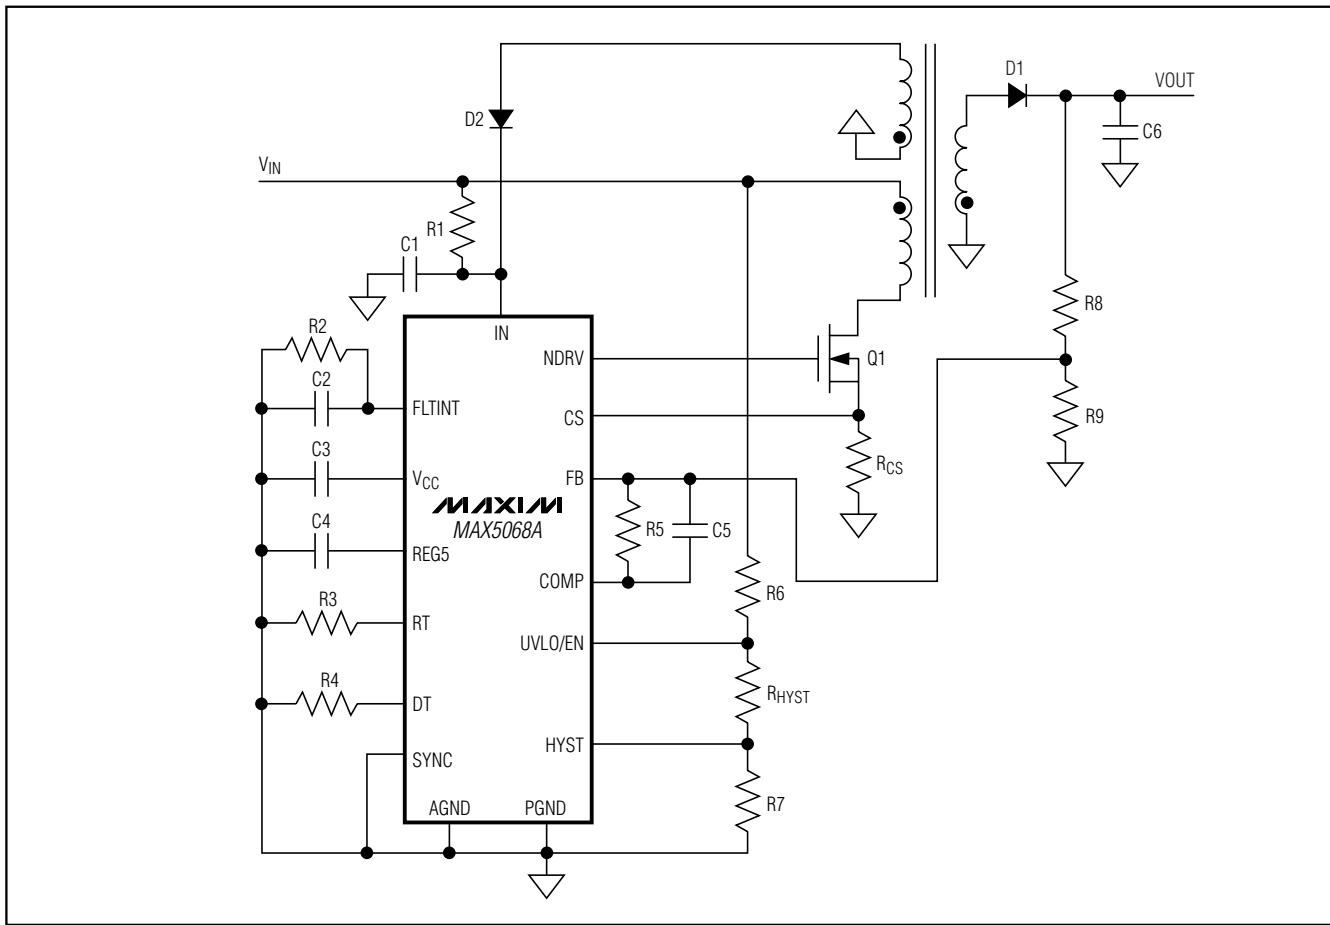
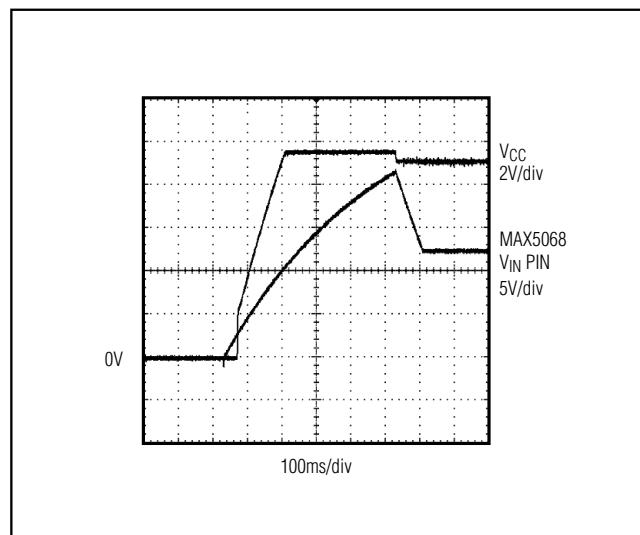

Figure 1. Nonisolated Power Supply with Programmable Input Supply Voltage
Figure 5.  $V_{IN}$  and  $V_{CC}$  During Startup When Using the MAX5068 in Bootstrapped Mode (Also see Figure 1)
**Note 2:** The MAX5068A/B are intended for use in universal-input power supplies. The internal clamp circuit is used to prevent the bootstrap capacitor ( $C_1$  in Figure 1) from charging to a voltage beyond the absolute maximum rating of the device when UVLO/EN is low. The maximum current to  $V_{IN}$  (hence to clamp) when UVLO is low (device is in shutdown) must be externally limited to 2mA. Clamp currents higher than 2mA may result in clamp voltages higher than 30V, thus exceeding the absolute maximum rating for  $V_{IN}$ . For the MAX5068C/D, do not exceed the 24V maximum operating voltage of the device.
Power supplies designed with the MAX5068 use a high-value startup resistor, R1, which charges a reservoir capacitor, C1 (Figure 1). During this initial period, while the voltage is less than the internal bootstrap UVLO threshold, the device typically consumes only 47µA of quiescent current. This low startup current and the large bootstrap UVLO hysteresis help to minimize the power dissipation across R1, even at the high end of the universal AC input voltage (265VAC).
Normally,  $V_{IN}$  is derived from the tertiary winding of the transformer. However, at startup there is no energy delivered through the transformer, hence, a special bootstrap sequence is required. Figure 5 shows the voltages on  $V_{IN}$  and  $V_{CC}$  during startup. Initially, both  $V_{IN}$  and  $V_{CC}$  are zero. After the input voltage is applied, C1 charges through the startup resistor, R1, to an intermediate voltage (see Figure 1). At this point, the internal regulator begins charging C3 (see Figure 5). Only 47 $\mu$ A of the current supplied by R1 is used by the MAX5068A/C/D. The remaining input current charges C1 and C3. The charging of C3 stops when the  $V_{CC}$  voltage reaches approximately 9.5V. The voltage across C1 continues rising until it reaches the wake-up level of 23.6V. Once  $V_{IN}$  exceeds the bootstrap UVLO threshold, NDRV begins switching the MOSFET and energy is transferred to the secondary and tertiary outputs. If the voltage on the tertiary output builds to higher than 9.74V (the bootstrap UVLO lower threshold), startup ends and sustained operation commences.
The  $V_{IN}$  bypass capacitor, C1, supplies current immediately after wakeup (see Figure 1). The size of C1 and the connection configuration of the tertiary winding determine the number of cycles available for startup. Large values of C1 increase the startup time and also supply extra gate charge for more cycles during initial startup. If the value of C1 is too small,  $V_{IN}$  drops below 9.74V because NDRV does not have enough time to switch and build up sufficient voltage across the tertiary output that powers the device. The device goes back into UVLO and does not start. Use low-leakage capacitors for C1 and C3.
The above startup method is applicable to a circuit similar to the one shown in Figure 1. In this circuit, the tertiary winding has the same phase as the output windings. Thus, the voltage on the tertiary winding at any given time is proportional to the output voltage and goes through the same soft-start period as the output voltage. The minimum discharge time of  $C_1$  from 22V to 10V must be greater than the soft-start time ( $t_{SS}$ ).